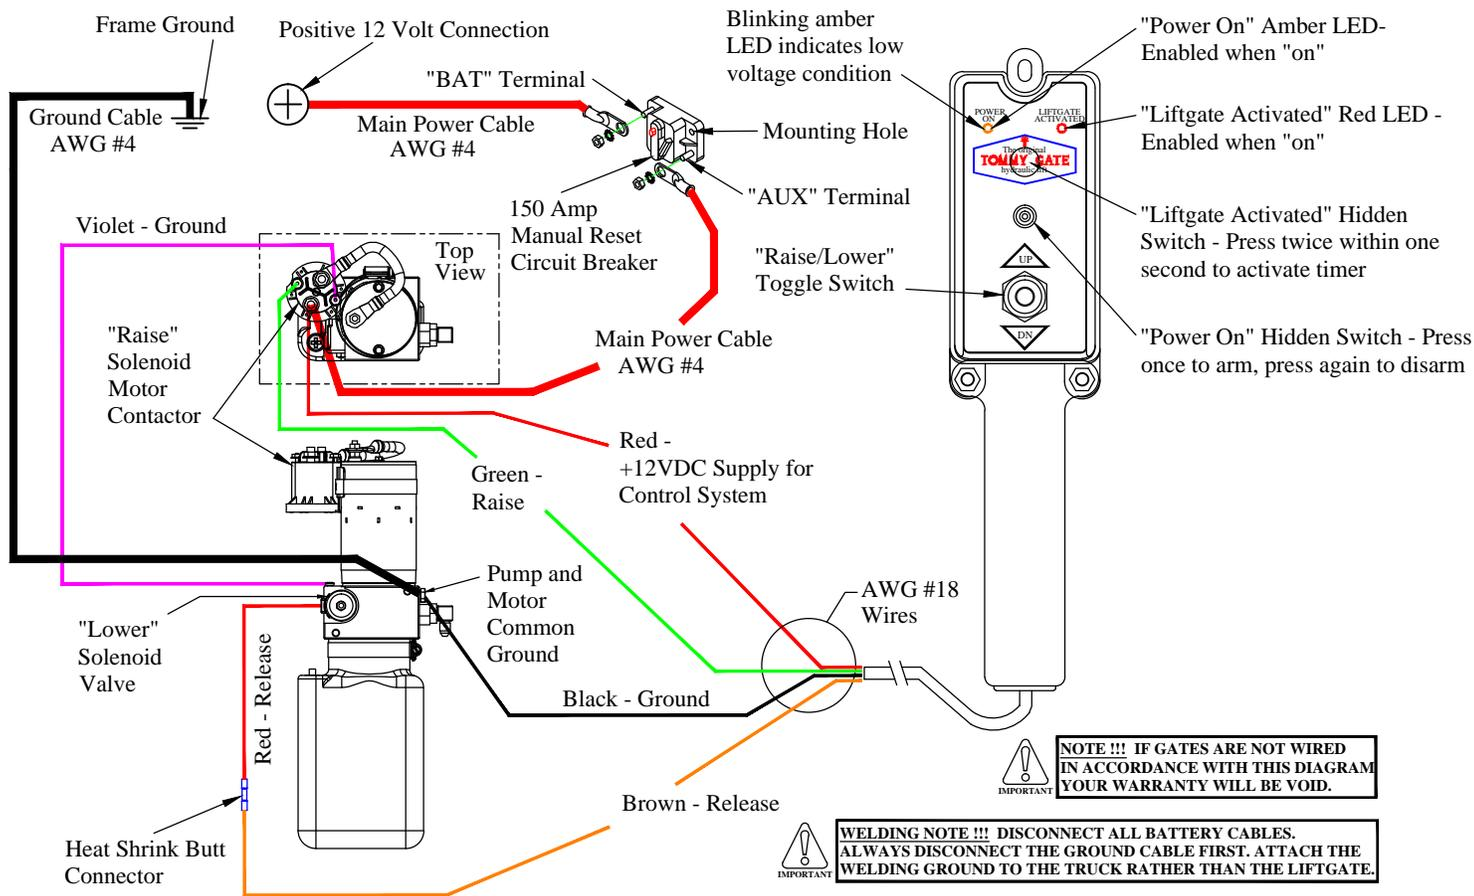

Figure 21: Wiring Diagram.
Note: Follow the *Tommy Gate Recommended Electrical Wiring Guidelines* and wiring diagram (Figure 21) in the following steps.
13. Connect the circuit breaker (Figure 21). Use the supplied heat shrink tubing.
- 21. **Connect** the positive(+) lead to the CCP bus bar. Use the supplied 5/16" bolt, lock nut, and two (2) pieces of heat shrink tubing to cover the cable connection to the bus bar.
- 23. **Push** the hidden "Power On" switch (Figure 21). The amber "Power On" LED will illuminate.